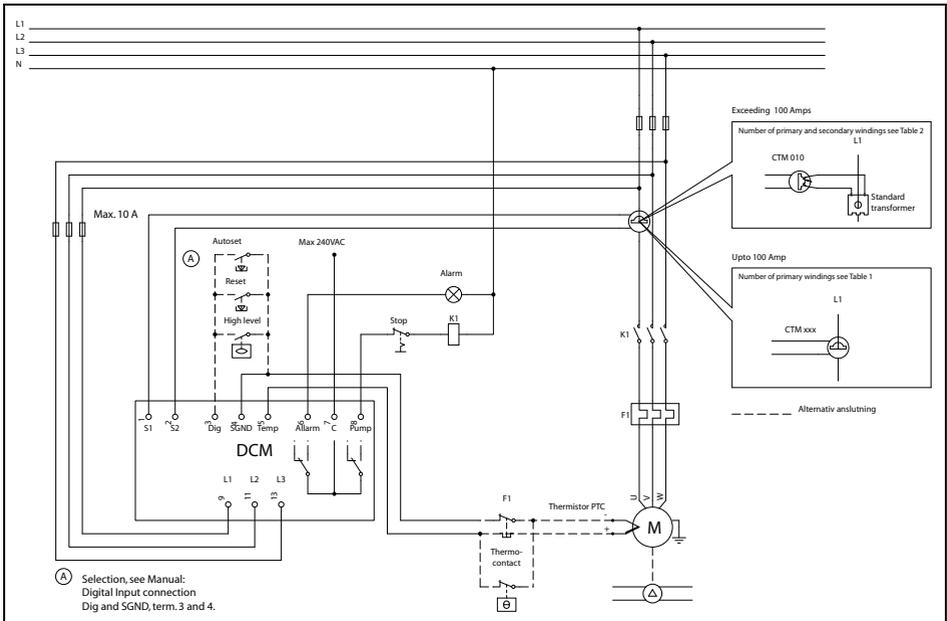

Fig. 13 Single-pump system installation example (alternatively see Chapter 13).
Connect the Emotron DCM (3-phase installation only) directly to the pump motor supply cable via terminals 9 (L1), 11 (L2), and 13 (L3). Make the connection ahead of the contactor of the motor, to ensure that the DCM also receives power when the motor is not in use. When motor fuses larger than 10 A are used, the DCM (power consumption 6 VA) must be fused independently, see Fig. 13, page 25.
Connect the current transformer CTM xxx to terminal 1 (S1, blue wire) and terminal 2 (S2, brown wire). The transformer **MUST** be linked to the phase connected to terminal 9 (L1), see Fig. 13.
**NOTE: Before connecting the current transformer(s), study the choice of current transformers carefully to determine the correct number of windings. The current transformer **MUST** be linked to the phase connected to terminal 9 (L1), see Fig. 13, page 25.**
Terminal 8 (PUMP) is an operating relay output. Terminal 7 (C) is the common input for the operating relay, see Fig. 13, page 25.
See Fig. 13, Table 8, page 53 and window 53.
Terminals 4 and 5 are the temperature-measuring input and/or motor protection contact connections. The motor protection relay can be connected in series with the temperature sensor. Terminal 5 (TEMP) is for a PTC-type thermistor or thermo contact. Terminal 4 (SGND) is the signal ground for the temperature-measuring input. See Fig. 13, Table 8 and windows 31 and 32.
7. In window 31, if the pump has a temperature sensor and/or motor protection, set the temperature monitoring to (on). If not, set the window to (OFF). See Section 8.5, page 42 and Fig. 13, page 25.
13. In window 53 set the required function for the digital input (DIG). Value: (1) high-level switch, (2) external reset, (3) external Auto set.
14. Connect the start and stop equipment to terminal 8, see Fig. 13, page 25.